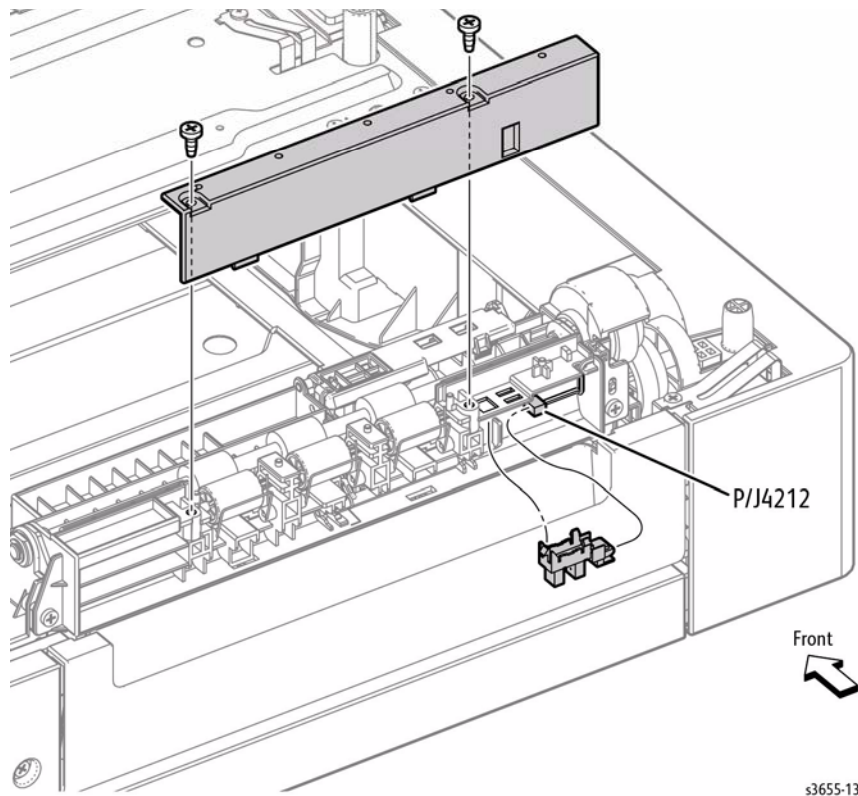

Figure 1 Remove the Path Sensor
2. Refer to Figure 1 to locate and remove 2 screws (silver, tapping, 8mm) that secure a cover on the Feeder Assembly, then disconnect and remove the sensor.